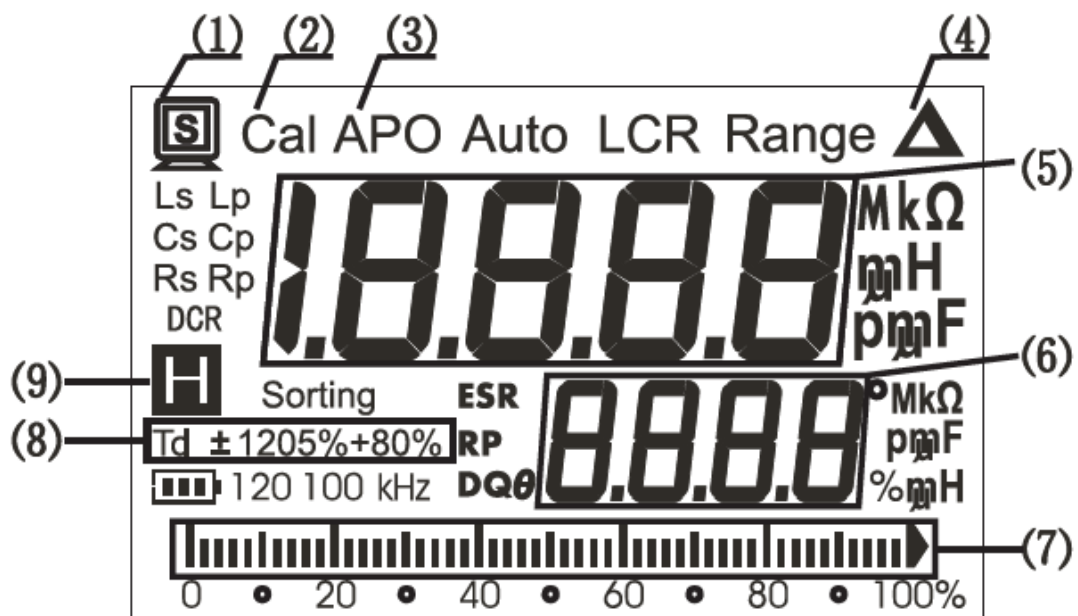

Figure 2
- 8 LCD Description \(See Figure 2\)
LCD Description (See Figure 2)